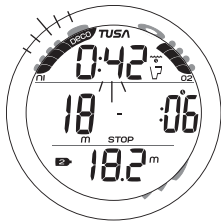

Fig. 85 - DV2 MAIN
**DV2 Main**, information includes (Fig. 85) -